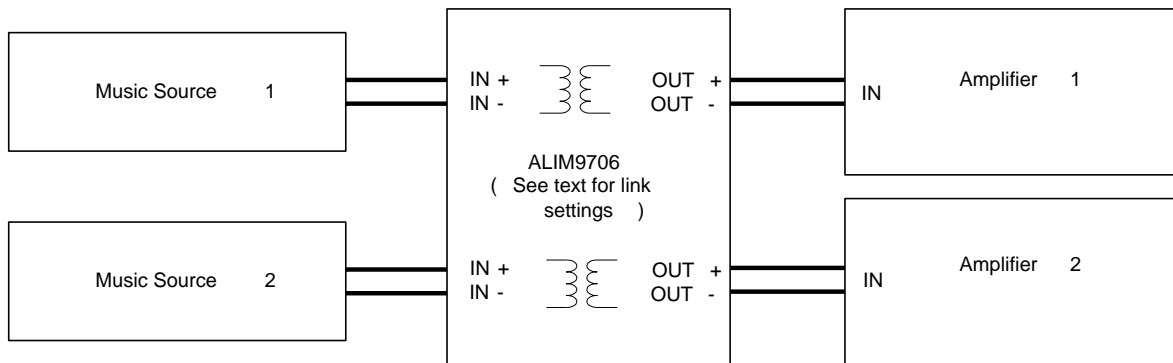

Figure 1 – Typical Use of ALIM for Background Music Isolation
- As an isolation and/or line balancing transformer (with optional volume control) for background music inputs connecting to the Local Inputs of QE90 Amplifiers, music input of T-GEN 50, etc. Refer Fig.1 below.